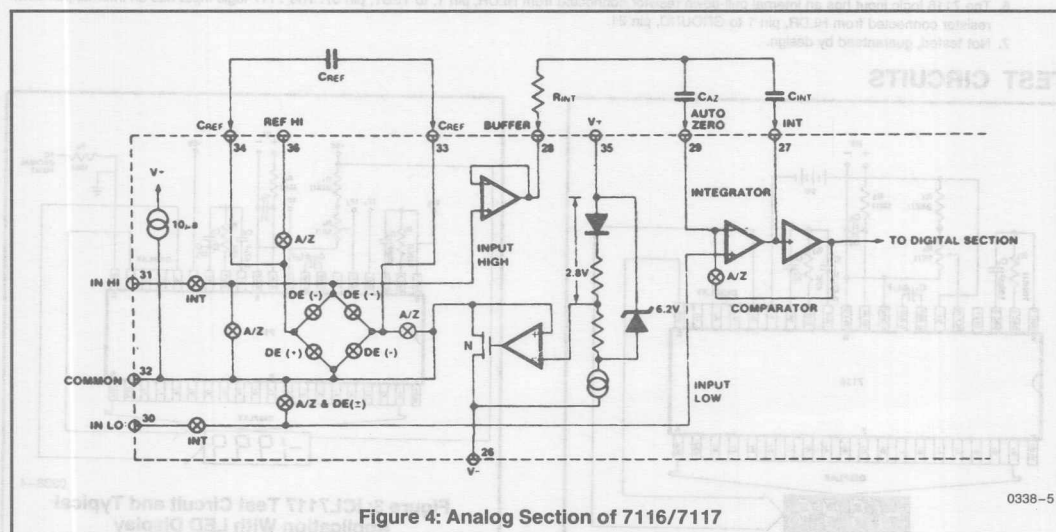

Figure 4: Analog Section of 7116/7117
Figure 4 shows the Analog Section for the ICL7116 and 7117. Each measurement cycle is divided into three phases. They are (1) auto-zero (A/Z), (2) signal integrate (INT) and (3) de-integrate (DE).